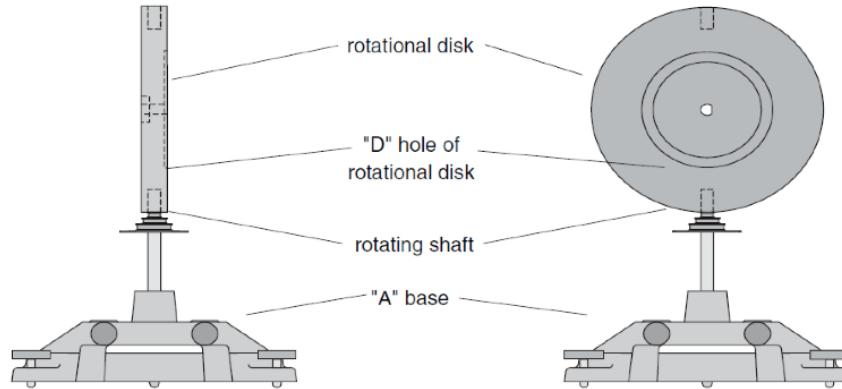

Figure 6: The setup for Section 3.3 steps 7 and 8.
1. Remove the straight track from the "A" base by loosening the screw under the track and lifting it from the center shaft. Put the straight track aside. Position the rotational disk directly on the center shaft as shown in Figure 6. The side of the disk that has the indentation for the ring should be up.
7. Remove the disk from the center shaft and rotate it up on its side. Mount the disk vertically by inserting the shaft in one of the two "D"-shaped holes on the edge of the disk. See Figure 6.